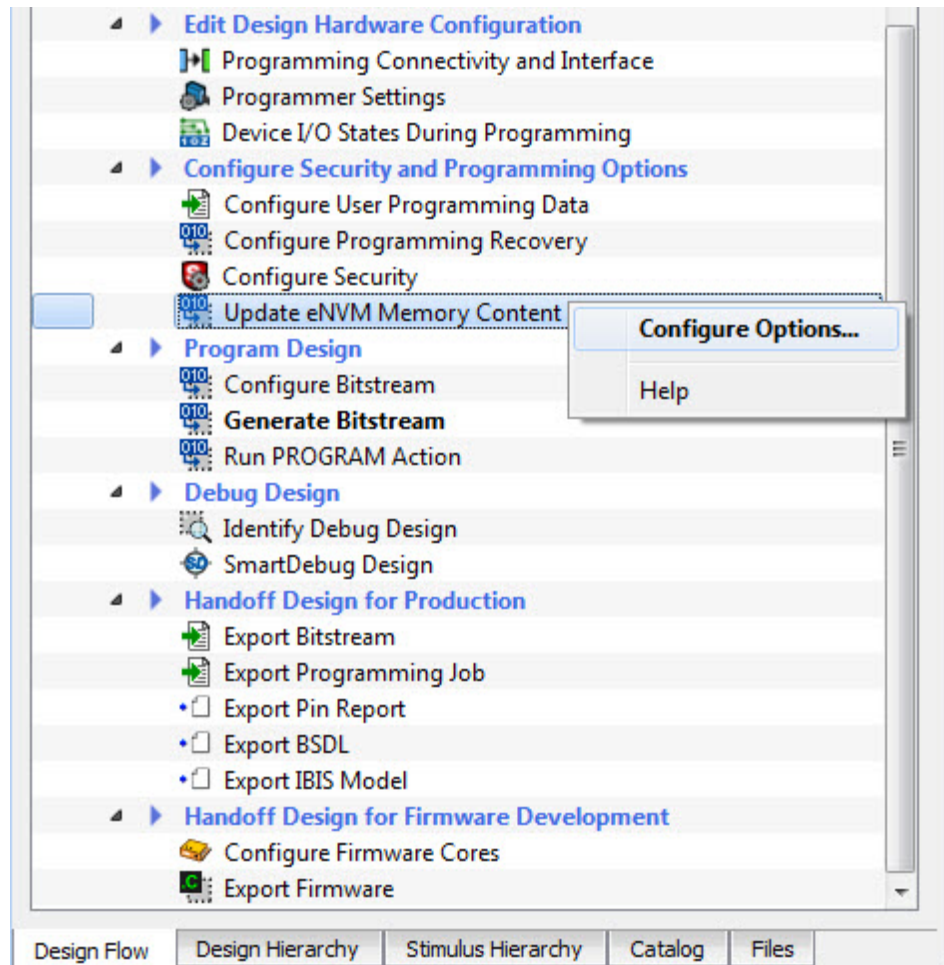

Figure 5-2 • Update eNVM Memory Content
8. If you need to change eNVM content, open the "Update eNVM Memory Content" dialog box (Figure 5-2). Changes you make in this dialog box will be saved to the eNVM *.cfg file you imported in Step 7.